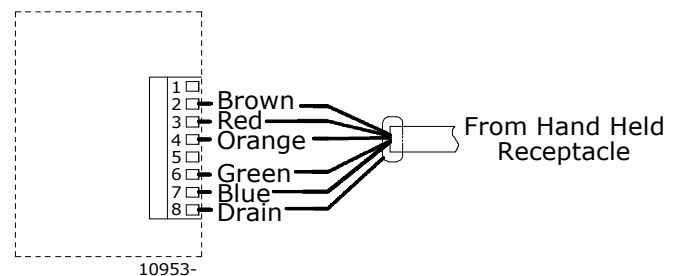

Figure 14 – Typical Connections at Actuator/Processor
- G) Connect colors as shown on Figure 14.